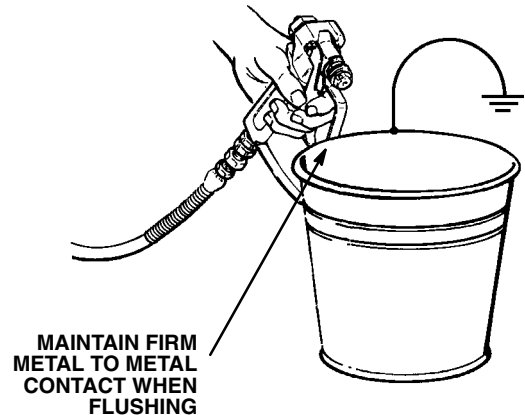

Fig 15-2
7. Hold a metal part of the gun firmly against and aimed into a metal waste container. Refer to Fig 15-2. Squeeze the trigger and hold it open, turn the ON/OFF switch to ON, and slowly increase the pressure setting until the sprayer starts. Keep the gun triggered until all air is forced out of the system and the solvent flows freely from the gun. Release the trigger and engage the gun safety latch. This procedure helps reduce the risk of static sparking and splashing.